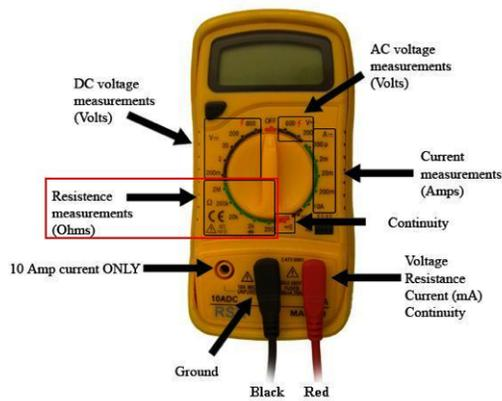

Figure 2.6: Digital Multimeter
1. Set the DMM to the Resistance or Ohms measurement setting, which is the region marked with “ $\Omega$ ”, “R” or “Ohms”. Figure 2.6 highlights the Ohmmeter region for an RSR MAS830 DMM. Note that your DMM might be different than the one in the picture.
3. Connect the red probe to the jacked marked “V $\Omega$ mA” as shown in Figure 2.6 (marked “ $\Omega$ ”, “R” or “Ohms”).